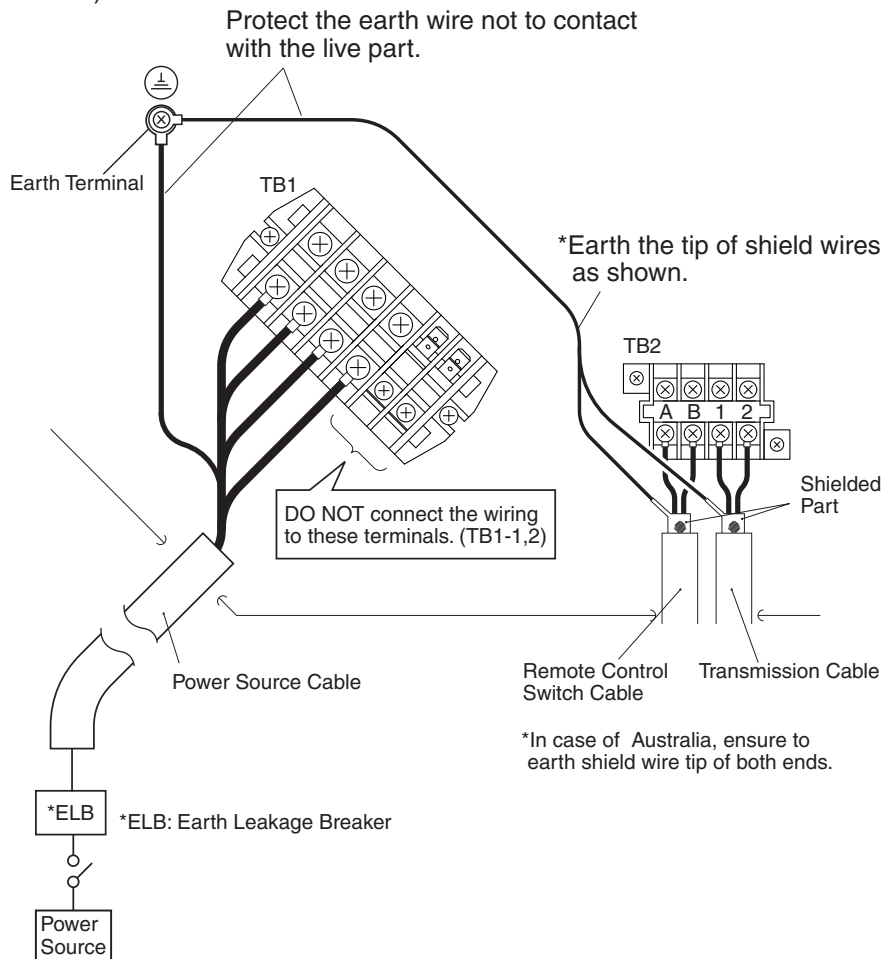

Fig. 1 Earth Wiring
- Use shielded wires of operation line between the indoor unit and the outdoor unit. And connect the shielded part to the earth screw in the electrical box of the indoor unit as shown in the Fig. 1. (Example: RPI-8FSN)